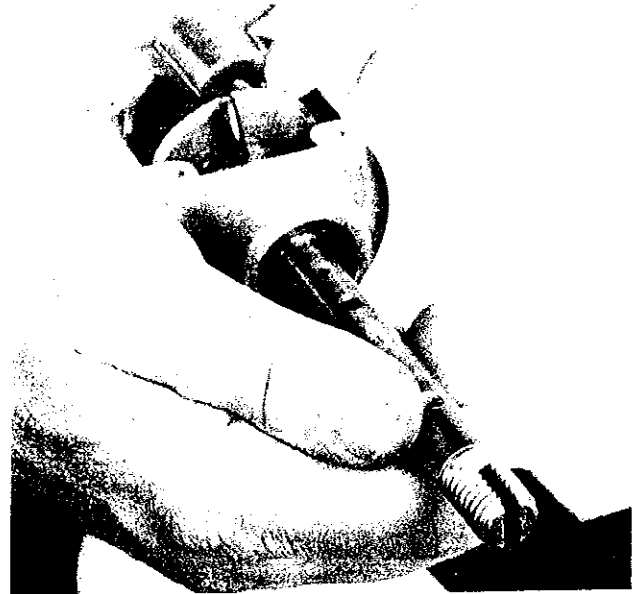

Figure 10. Install propeller shaft.
- F. Install bevel gear, shaft spacer (if used) and propeller shaft in gear housing (Figure 10).